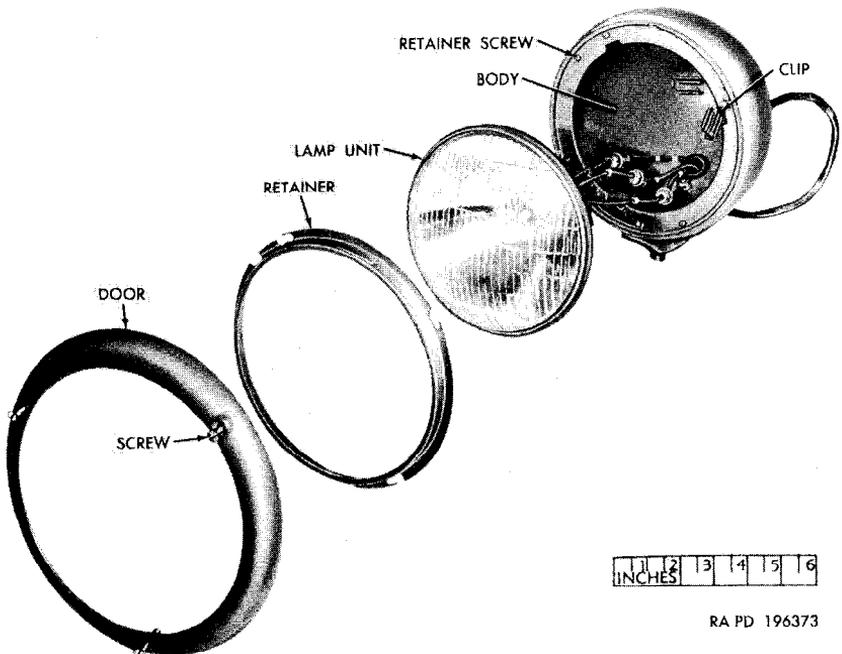

Figure 140.—Service headlight—partial exploded view.
a. Replace Service Headlight Lamp-Unit (fig. 140). Both service headlight lamp-units are serviced in the same manner.
- (1) Unscrew the three screws that secure the headlight door and
- (2) Loosen the four lamp-unit retainer screws, turn the retainer clockwise to disengage it from the screws and remove the retainer.
- (3) Pull the lamp-unit from the headlight body far enough to provide access to the three cable connectors.
- (4) Remove the three connectors from the clips inside the headlight body, separate the connector shells, and pull the lamp-unit cable terminals from the connector sleeves. Remove the lamp-unit with attached cables.
- (5) Connect the three lamp-unit cables to the three cables in the headlight body, matching the cable numbers. Connect the cable shells and engage the connectors in the clips inside the headlight body.
- (6) Position the new lamp-unit in the headlight body with the three projections alined with the three recesses in the body ring. Install the lamp-unit retainer with the enlarged ends of the screw slots over the four retainer screwheads. Turn the retainer counterclockwise to engage the four screws. Tighten screws.
- (7) Install the headlight door with the inner recess at the top,